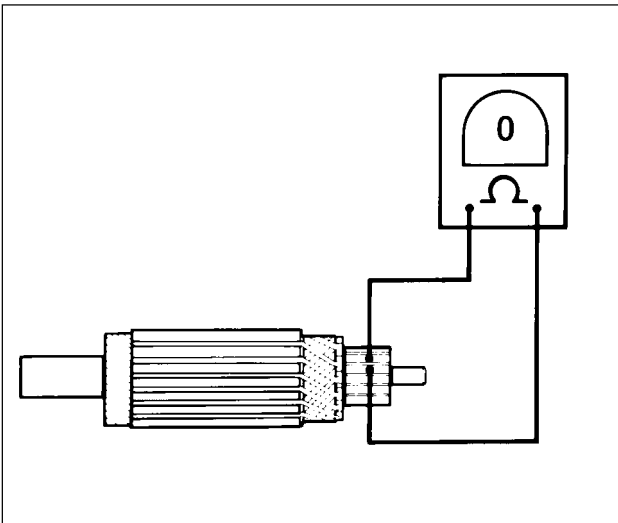

Figure 5-13. Armature Open Test
12. See **Figure 5-13**. Check for OPEN ARMATURE with an ohmmeter or continuity tester. Check for continuity between all commutator segments. There should be continuity (0 ohms) at all test points. No continuity at any test point indicates armature is open and should be replaced.